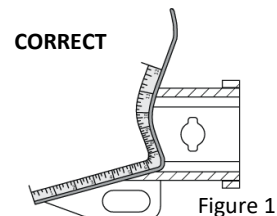

Figure 1
- Measure from bottom edge along bumper and around corner to the 70 mm point (Figure 1).